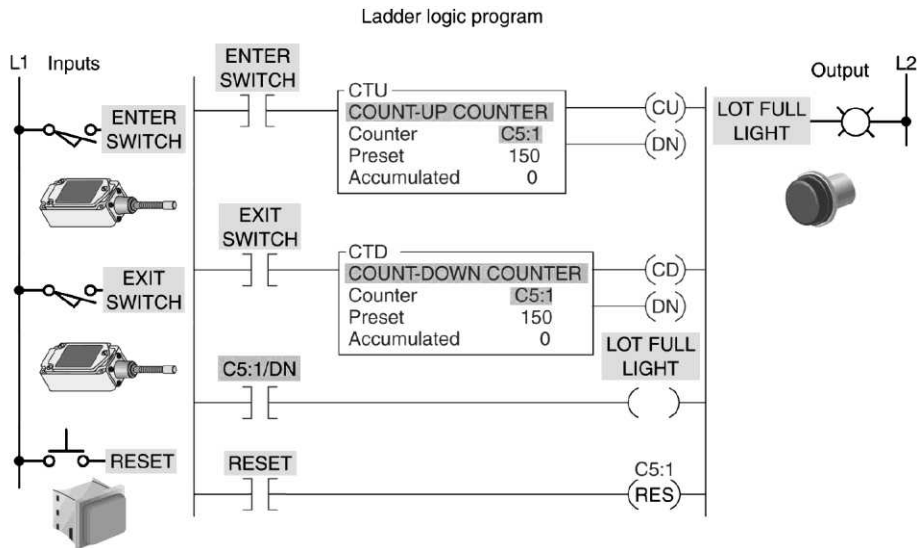

Figure 8-12
6) The parking garage counter program of Figure 8-12 is described in the text. Prepare an I/O connection diagram and ladder logic program for this process. Use addresses that apply to your PLC. Enter the program into the PLC, and prove its operation.